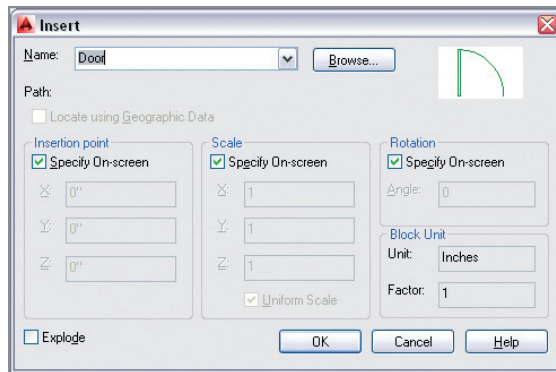

FIGURE 7.13 Specifying everything on screen when inserting a block
13. Press the spacebar to repeat the INSERT command. Select Specify On-Screen in the Scale and Rotation sections of the Insert dialog box (see Figure 7.13) and click OK.